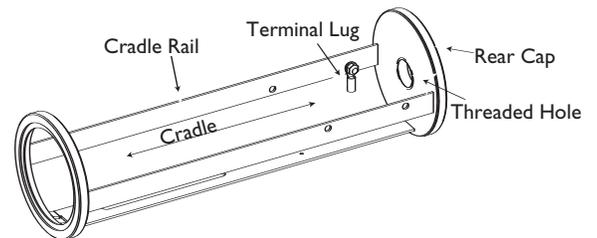

Figure 5: Power Connection
3. A screw, nut and terminal lug are provided for the safety ground. See Figure 5.